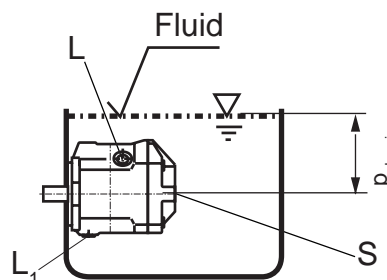

Fig. 3
- a) If the minimum fluid level is equal to or above the top of the pump, ports "L", "L₁" and "S" should remain open (see fig. 3).